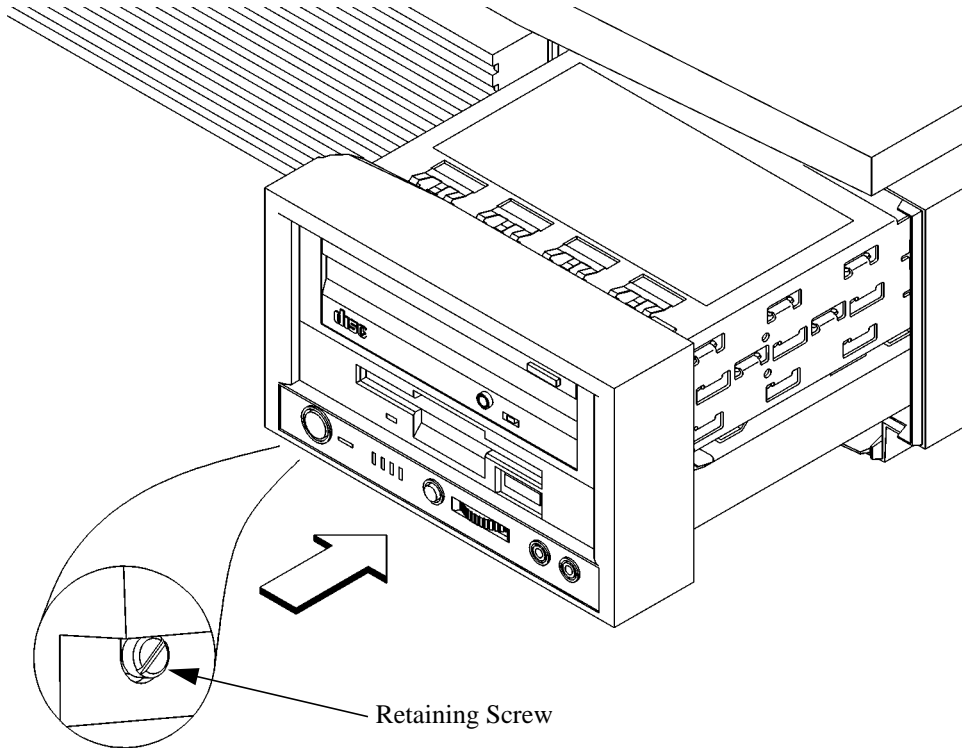

Figure 34 **Installing the Storage Tray Assembly**
- 1 Slide the storage tray assembly into the system unit chassis, as shown in Figure 34.
- 2 Tighten the storage tray retaining screw, as shown in Figure 34.